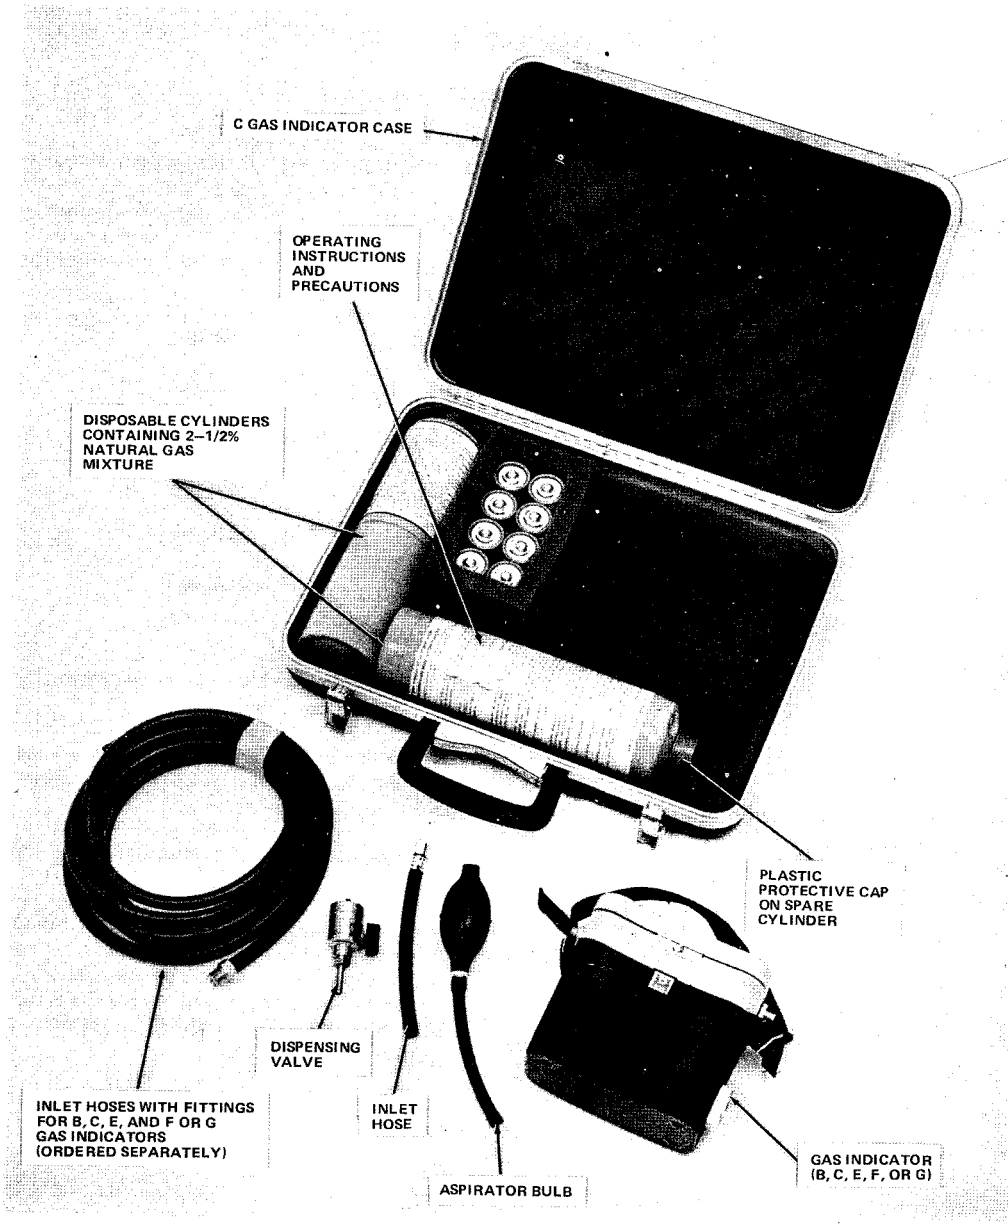

Fig. 1—C Gas Test Kit
**2.01** The C gas test kit (Fig. 1) consists of the following components:
- (a) Two (2) disposable pressurized gas cylinders containing a mixture of 2-1/2 percent natural gas in air at 250 psi
- (c) Four (4) inlet hoses for connecting the gas cylinder to the gas indicator; one hose each for B, C, and E indicators and one which may be used for both the F and G gas indicators. These hoses must be ordered separately as required.